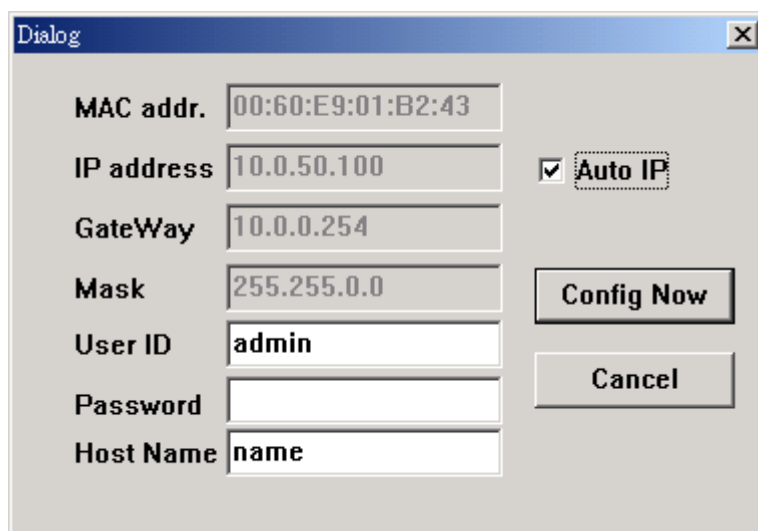

Figure 3.3. monitor.exe Auto IP Dialog Window
->Check "**Auto IP**" (ref Figure 3.3)